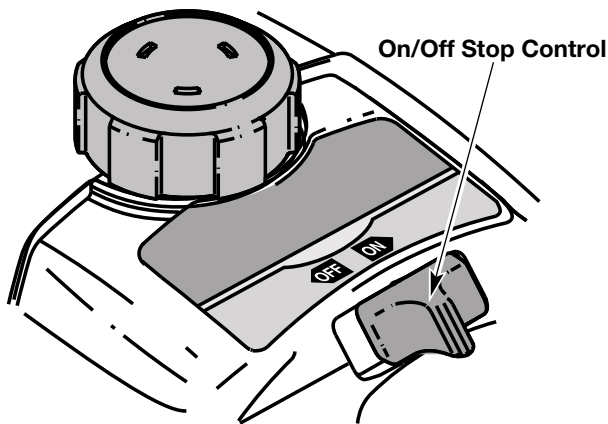
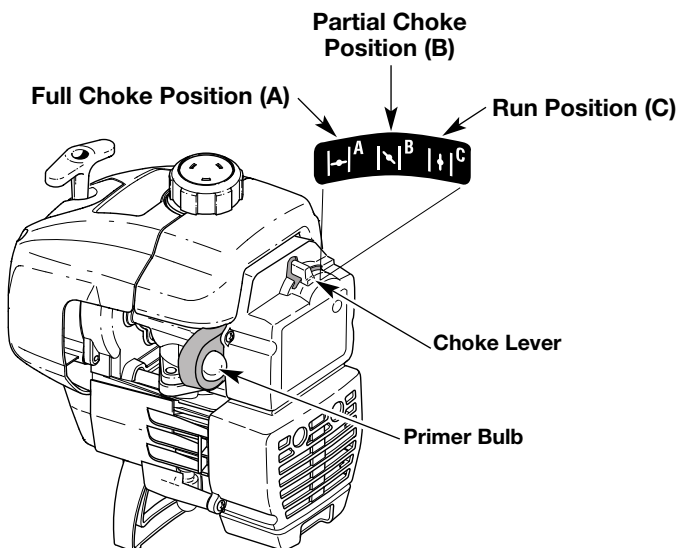

Fig. 14
Fig. 15
2. Put the On/Off Stop Control in the **ON** position (Fig. 14).
3. Fully press and release primer bulb slowly 5 to 7 times. Fuel should be felt and visible in the bulb (Fig. 15). If fuel hasn't entered the bulb, press three more times, or until it does.
4. Place the choke lever in the **FULL** choke position (A) (Fig. 15).
6. Place the choke lever in the **PARTIAL** choke position (B) (Fig. 15).
**NOTE:** If the engine floods while trying to start, place the choke lever in the **RUN** position (C). Squeeze the throttle control. Pull the starter rope briskly. The engine should start within three (3) to eight (8) pulls.
9. Squeeze the throttle control to warm up engine for 5 to 10 seconds. Place the choke lever in the **RUN** position (C) (Fig. 15).
**NOTE:** Choking is unnecessary when starting a warm engine. Put the On/Off Stop Control in the ON position (Fig. 14), and start in **PARTIAL** Choke position (B) (Fig. 15).
2. Put the On/Off Stop Control in the **OFF** position (Fig. 14).